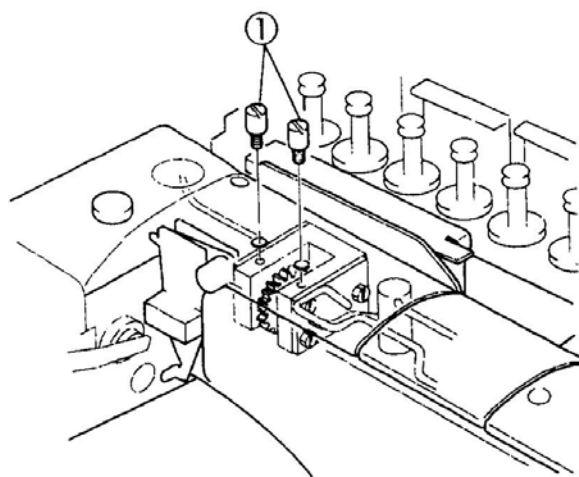

Fig.13
裝新機器或使用久未使用的機器，如果油沒有循環完整，需移除幫浦上的油塞螺絲①，注入油後裝回螺絲再使用機器。(Fig.13)
Prime oil if oil does not circulate completely when installing a new machine or running a machine which has not been used for a while. Remove the plug screws ① of the pump driven gear to prime oil. Run a machine after resetting them ①. (Fig.13)